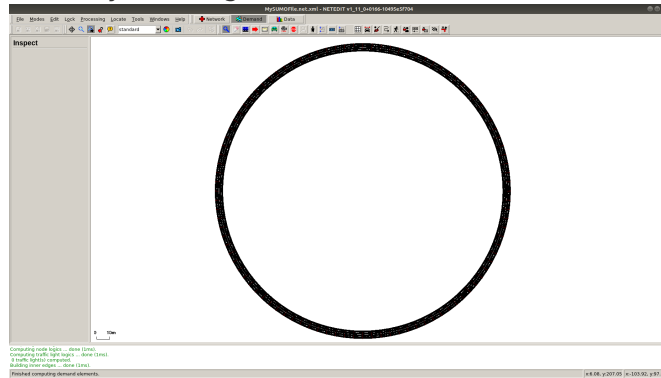

Figure 3: Demand tab view of circular road
4. Clicking on the demand button you can get a clearer view of the road (Figure 3).